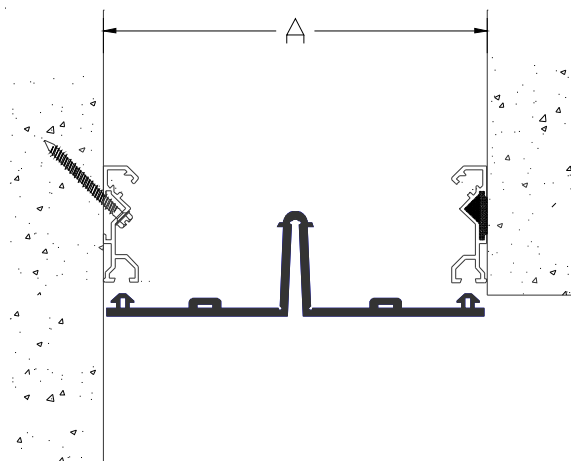

Figure 8
**STEP 15.** Beginning from the bottom of the joint, insert the arrows of the trimmed section of face seal into the corresponding base member face seal retainer track. Use a wall paper roller (by others, 1/2" width) to roll the arrows into the tracks continuously along the length of the face seal, see Figure 8. Lubricating the face seal's arrows with soapy water or liquid soap can make installation of the face seal easier. Do not use oils or oil based lubricants on the face seal arrows.